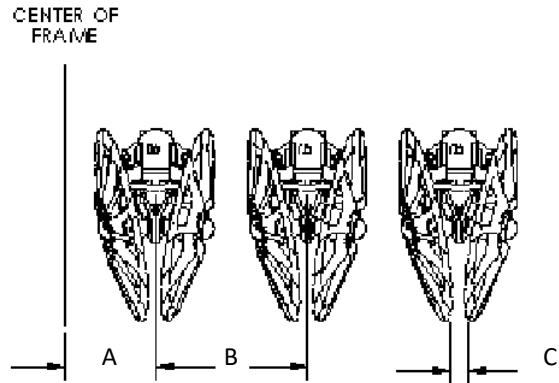

Figure 4-4: Lifter Strut Spacing
4.2.1 Lifter Strut Spacing: Verify that the spacing matches the spacing of the planted crop as shown in Figure 4-4.